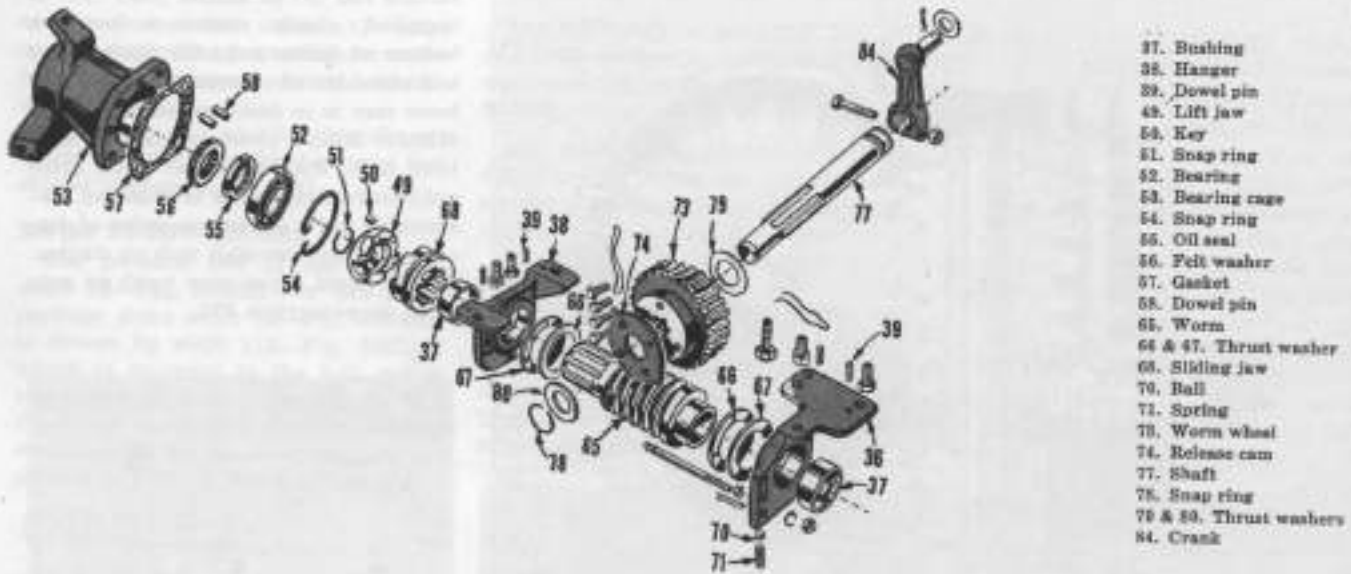
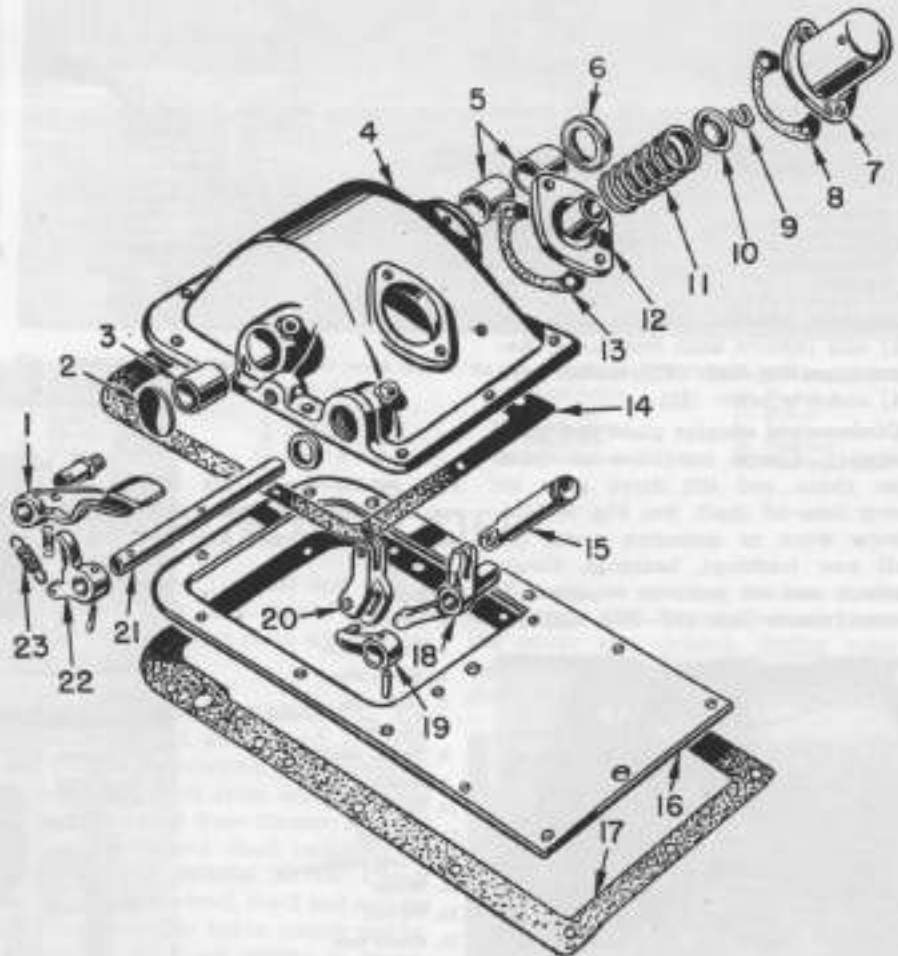

Fig. MH455—Power lift assembly—All models except 20, 20K, 22, 22K, 55, 55D, 55K, 55LP, 81, 82, 201, 202, 203 and 203G. Worm (65) is mounted on the PTO shaft.
Fig. MH456—Power lift housing assembly—All models except 20, 20K, 22, 22K, 55, 55D, 55K, 55LP, 81, 82, 201, 202, 203 and 203G.
322. ADJUSTMENT. Power lift worm (65—Fig. MH455) and worm wheel shaft (77) are carried in bushings, with end play controlled by thrust washers. Adjustment is possible only by renewing parts.
323. R&B AND OVERHAUL. Remove power take-off shaft assembly, power lift arm guard and operator's seat assembly. Remove cap screws holding lift unit to tractor and remove the unit. Unbolt worm hangers (36 & 36—Fig. MH455) and remove worm assembly. Pry out expansion plug (2—Fig. MH456) and remove snap ring from end of lift shaft. Check lift arm, shaft, worm wheel and release cam for assembly index punch marks or mark if necessary before disassembly. Pull shaft (77—Fig. MH455) out of case and worm wheel (73). Remove worm wheel and thrust washers. Unbolt release plunger rod cap (7—Fig. MH456), extract spring lock (9) and remove spring (11), retainer (10) and plunger rod guide (12). Drive taper pins out of release levers (19 & 22) and pull shaft (21) out of case. Remove lever (18), link (20) and plunger rod (15) from case. Renew worn or defective parts, install new bushings, thrust washers and oil seals as required. Reassemble parts as shown in Fig. MH455 and 456 and reinstall unit on tractor.